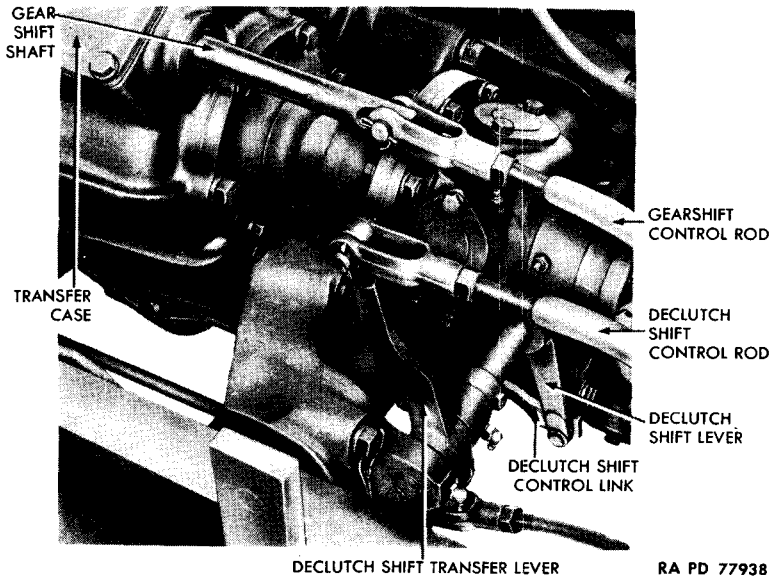

Figure 55 - Transfer Case Linkage
(1) **DISCONNECT GEARSHIFT CONTROL ROD** (fig. 55). Remove the cotter pin, clevis pin, and flat washer from each end of rod, and remove rod.
(2) **REMOVE DECLUTCH SHIFT CONTROL ROD** (fig. 55). Remove the cotter pin, flat washer, and clevis pin at each end, and remove rod.
(3) **DISCONNECT DECLUTCH SHIFT LEVER** (fig. 55). Remove the cotter pin, flat washer, and clevis pin which secure lever to declutch shift control link.
(1) **CONNECT DECLUTCH SHIFT LEVER** (fig. 55). Position lever to declutch shift control link. Secure with clevis pin, flat washer, and cotter pin.
(2) **CONNECT DECLUTCH SHIFT CONTROL ROD** (fig. 55). Position rod between declutch shift hand lever and declutch shift transfer lever. Secure with the clevis pin, flat washer, and cotter pin at each end.
(3) CONNECT GEARSHIFT CONTROL ROD (fig. 55). Position rod between gearshift hand lever and gearshift shaft. Secure with the clevis pin, flat washer, and cotter pin at each end.
- c. Remove Declutch Shift Control Rod (fig. 55) (par. 97).